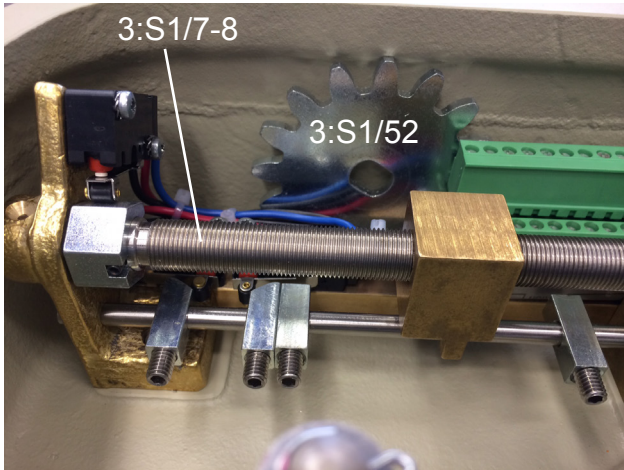

Figure 6
The actuator is normally delivered with the gear wheel (3:S1/52) unmounted, see figure 6. If the actuator is delivered mounted on a valve, the bridge mechanism and indicating switches will be preset before dispatch.
3. Undo the two stops No. 1 & 2 closed to the slide block (3:S1/9-10), so that it can move freely within the whole range. Figure 6 shows the adjustment of the stops. Damage could occur if the slide block runs against the stops 1 & 2 moving them more than 3,2 mm.